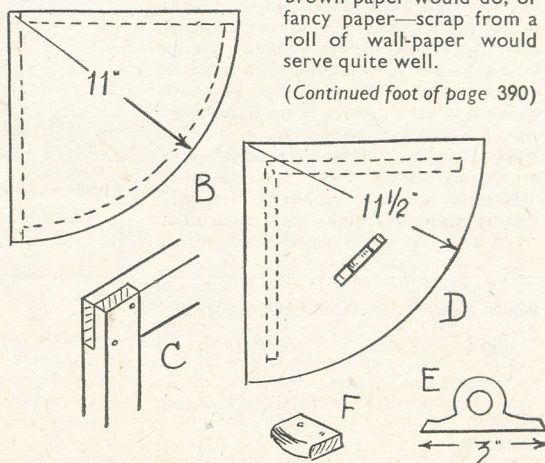

Fig. 3—The lid, feet and handle
At this stage cut the lid, shown at (D) in Fig. 3. This can be cut from plywood, or good quality hardboard might serve. Lay the lid upside down on the bench, and stand the carcase of the basket on it, also upside down. See the lid extends beyond the basket about  $\frac{1}{4}$  in. each side.
Washing day is always a hard day when it comes to carrying the wet clothes in and out of doors and chasing the peg bag. The workmanlike garden washing day trolley seen in Fig. 3 is made from a drawer from an old chest of drawers. It is cleaned up, with handles added at each end and lined with some light American cloth, put on with paste.